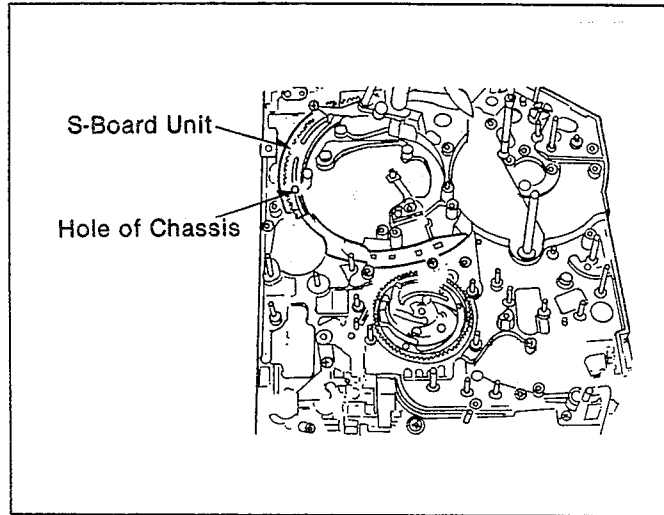

Fig. M5
- (1). Install the S-Board Unit as shown in Fig.M5.